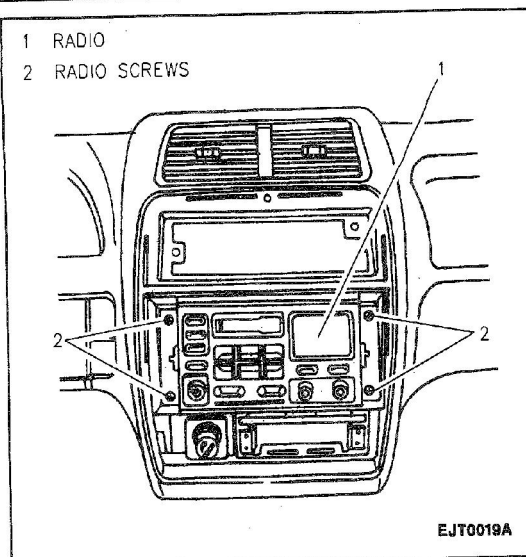

Figure 13—Radio Removal
16. Four screws, two electrical connectors and radio (Figure 13).